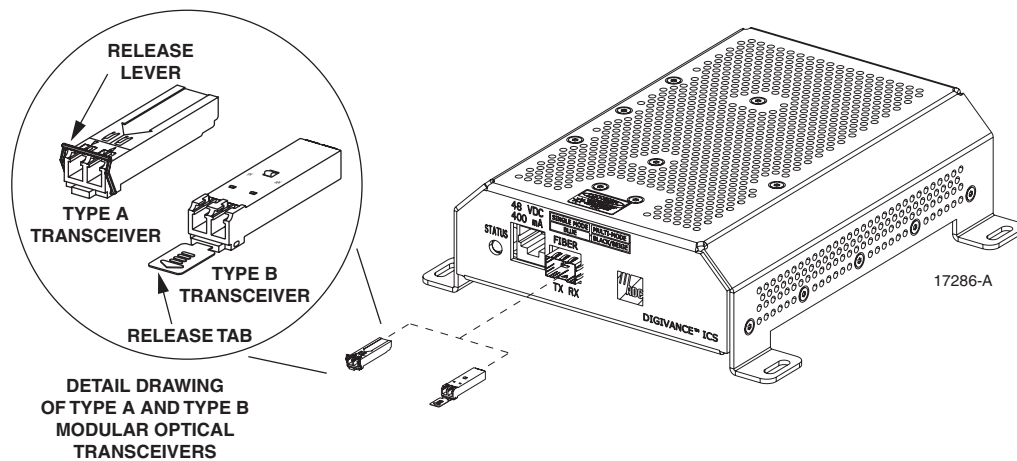

Figure 36. DRU Optical Transceiver Installation
8. Remove the optical transceiver from the anti-static packaging and orient for installation as shown in Figure 36.
- **Note:** Two types of optical transceivers, type A and type B, are available. Both types provide the same functionality. On the type A optical transceiver, the release lever (see Figure 36) must be closed for installation.